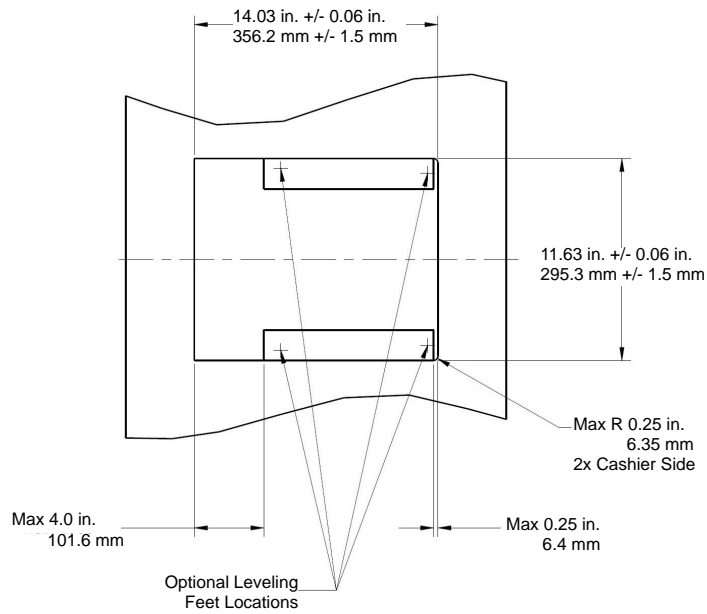
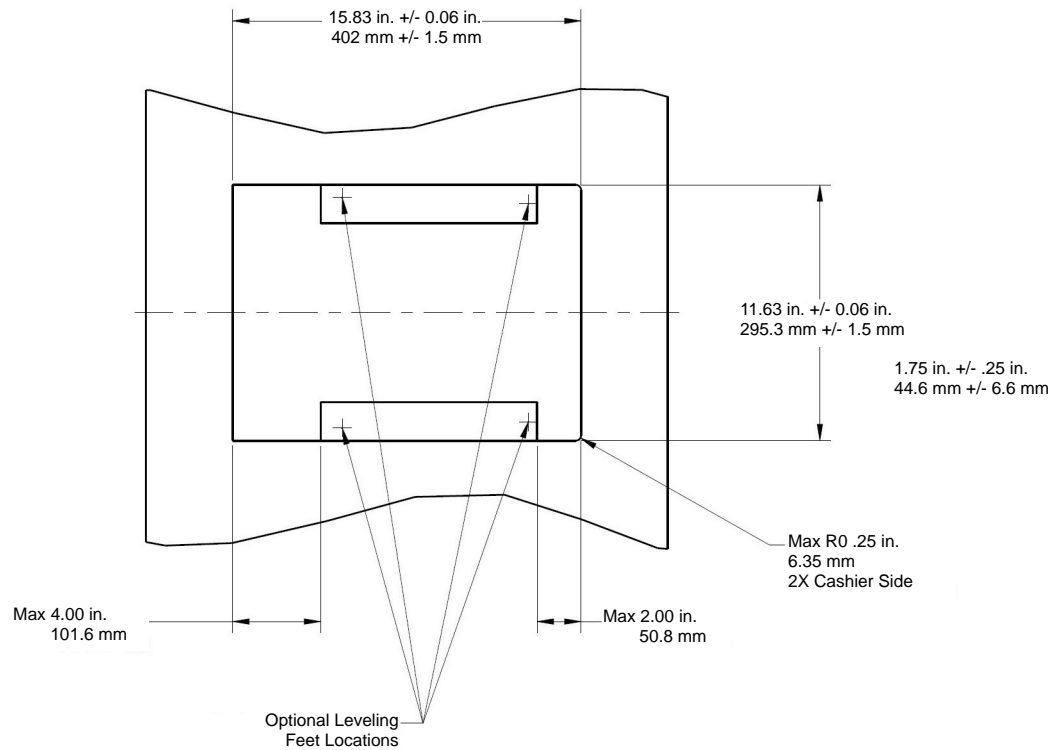
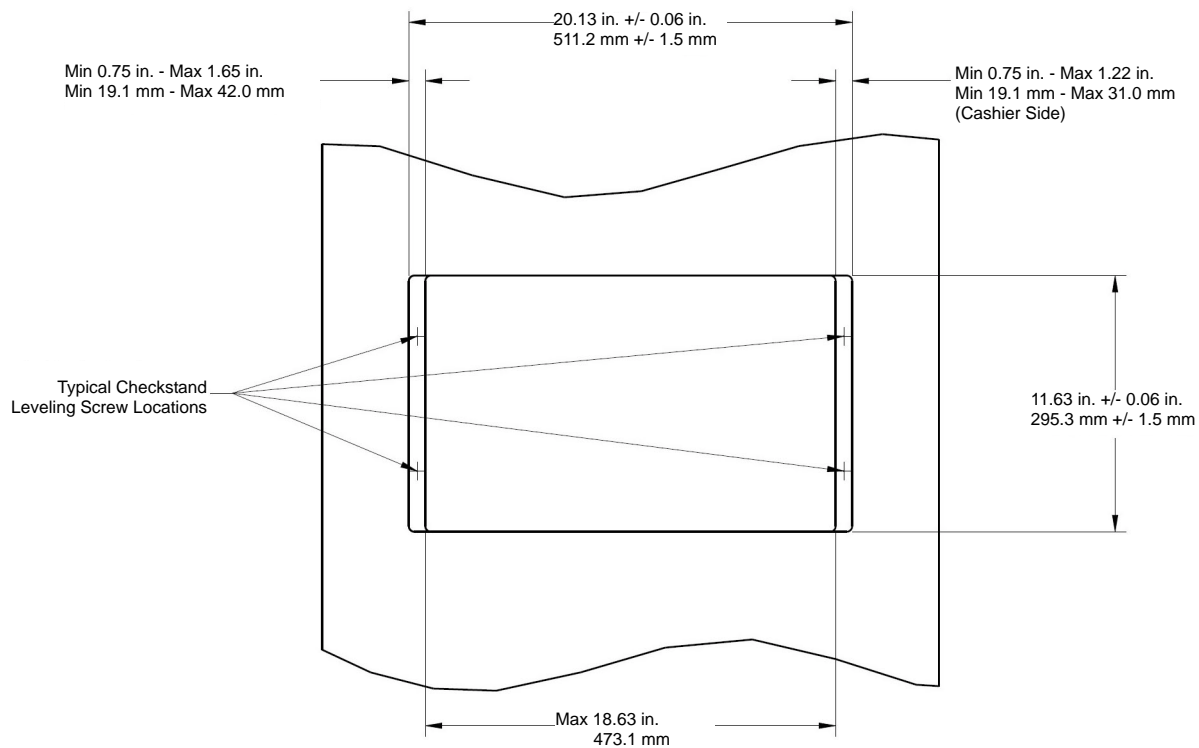

Figure 3-30 MP6000 - Short Unit (No Scale) Counter Cutout
Figure 3-34 MP6000 - Medium Unit Counter Cutout
Figure 3-38 MP6000 - Long Unit Counter Cutout
2. Verify checkstand dimensions shown in Figure 3-30, Figure 3-34, and Figure 3-38, respectively.